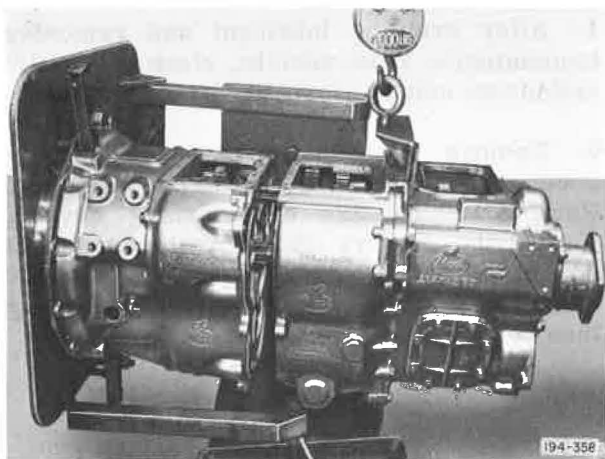

Figure 5-123. Separating Main Case from Compound Case
4. Remove compound case to main case cap-screw. With the aid of a hoist, separate main case from compound case. See Figure 5-123.